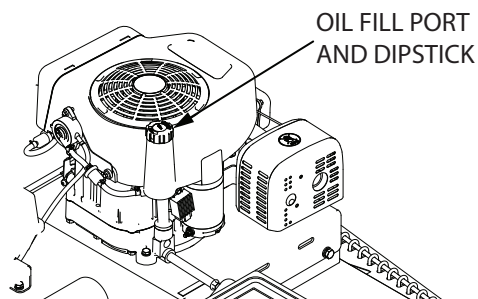

FIGURE 9: Oil Dipstick Location.
3. Open fill port and prop dipstick. **SEE FIGURE 9**